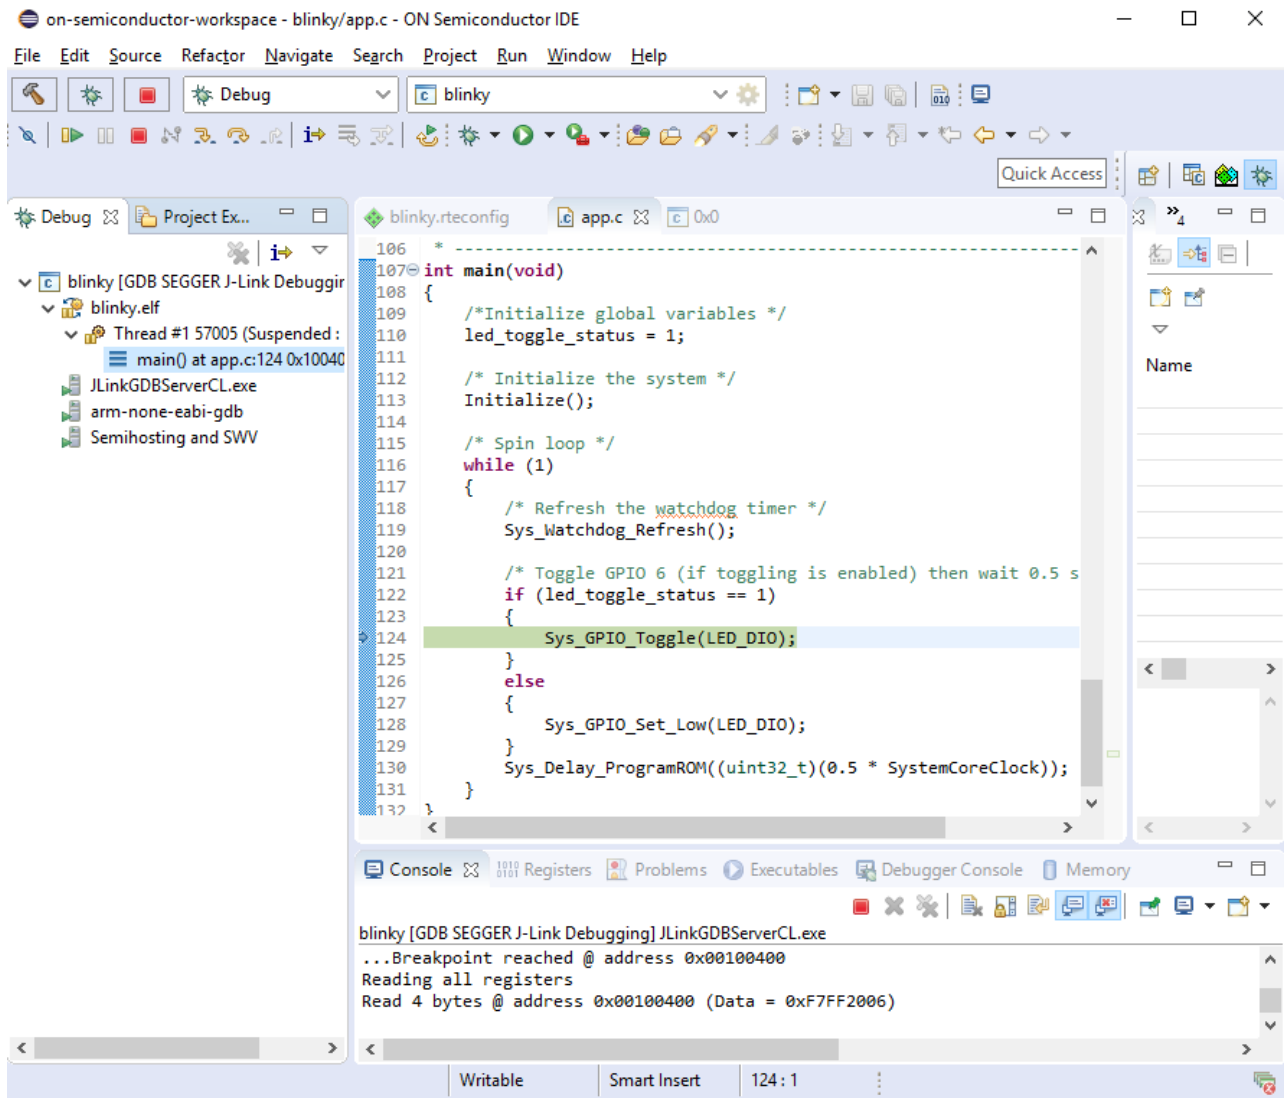

Figure 11. Debug Perspective
6. The Debug perspective opens and the application runs to *main*, as shown in the figure "Debug Perspective" (Figure 11). You can press F6 multiple times to step through the code and observe that the LED changes its state when the application executes the function `Sys_GPIO_Toggle(LED_DIO)`.